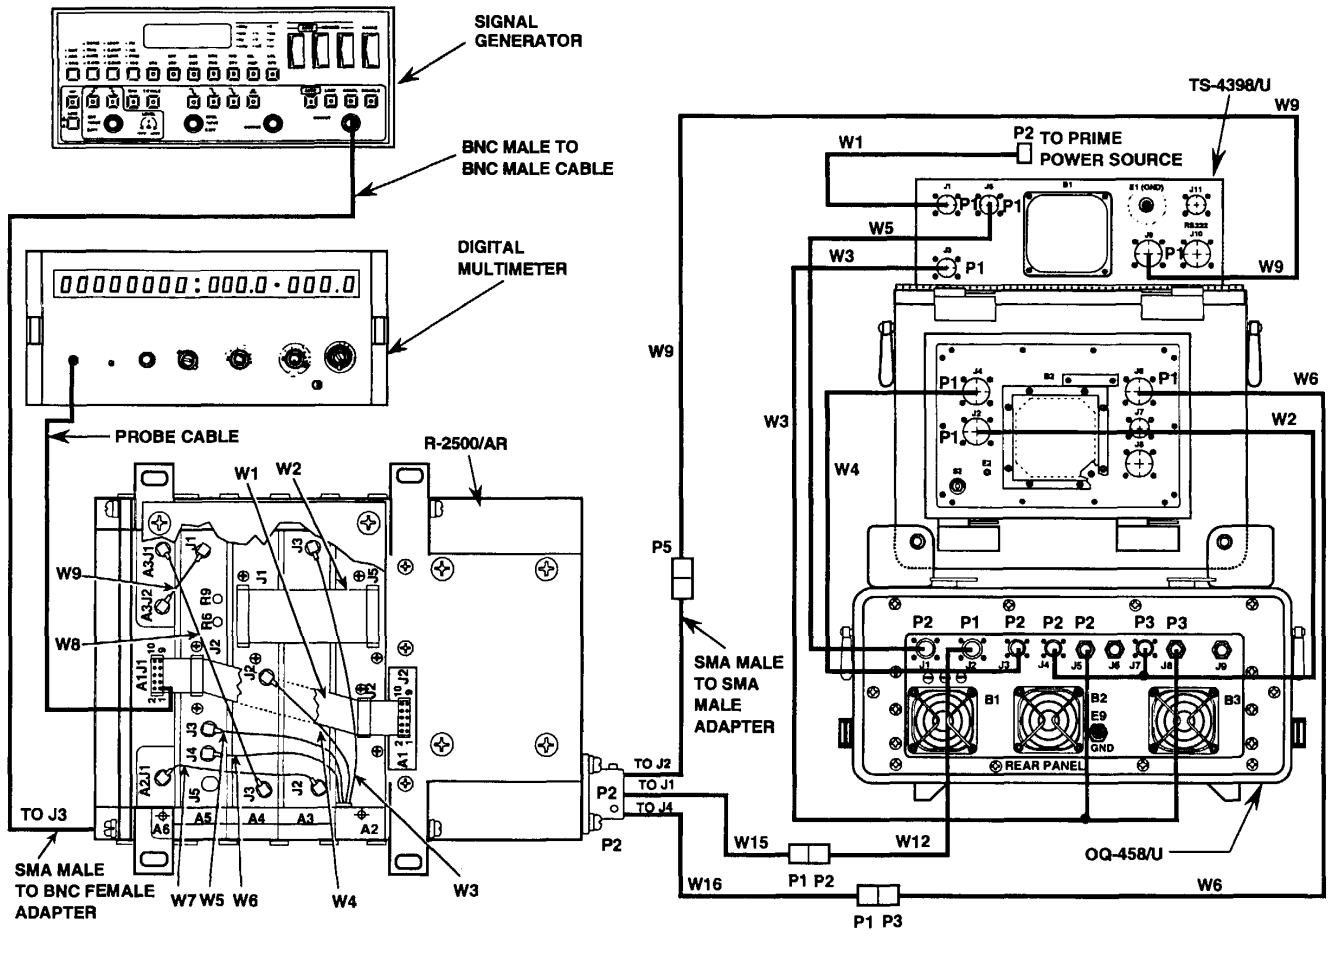

FIGURE 5-46. R-2500/AR ELECTRONIC COMPONENT ASSEMBLY OUTPUT TEST INTERCONNECTIONS.
The interconnections for the R-2500/AR module fault isolation test are shown in figures 5-46 through 5-49. The test controller TS-4398/U controls and indicators used during the test are shown in figure 5-45. Figure 5-46 shows the R-2500/AR electronic component module output test interconnections. Figure 5-47 shows the R-2500/AR IF output test interconnections. Figure 5-48 shows the R-2500/AR A5J5 output test interconnections. Figure 5-49 shows the R-2500/AR offset test
(1)	Connect W15PZ to J1 on R-2500/AR. Connect W15P1 to W12P2. (See figure 5-46.)
(2)	Connect W12P1 to J2 on OQ-458/U to provide 28 Vdc from AN/URN-214.
(3)	Connect an adapter to JZ on R-2500/AR and to W9P5.
(4)	Connect W9P1 to J9 on TS-4398/U to provide a 10 Mhz, 0 dBm \pm 3 dB reference signal.
(5)	Connect a cable to J3 on R-2500/AR and to the signal generator output.
(6)	Connect W16P2 to J4 on R-2500/AR. Connect W16P1 to U6P3.
(7)	Connect W6P1 to J6 of TS-4398/U to provide tuning and output connections with AN/URM-214.
(8)	Ground the digital multimeter to R-2500/AR.
(9)	Turn on the digital multimeter.